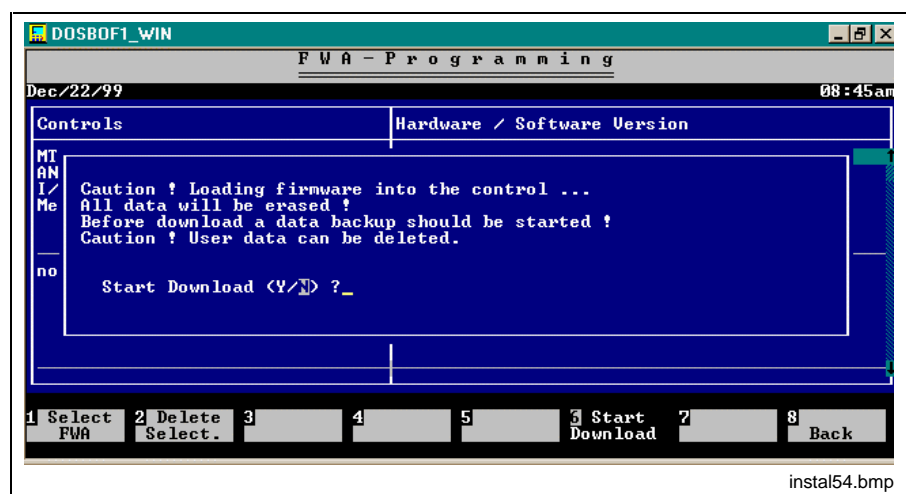

Figure 5-5: Confirmation FWA download
- Figure 5-5: Confirmation FWA download 5-4